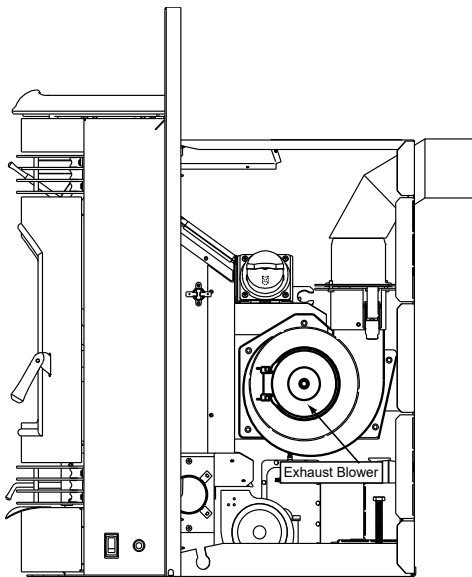

Figure 25.1
- Remove right access panel and then slide out right side panel of appliance, held in place with 2 screws, to expose the exhaust blower (**Figure 25.1**).